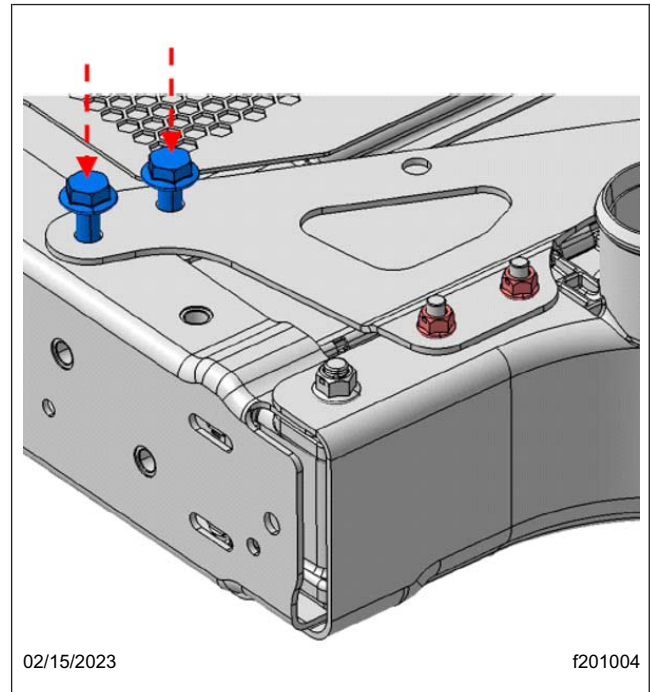

Fig. 15, M10 Flange Bolt Installation
- 15.4 Tighten the M10 hex flange bolts 29 ± 3 lbf·ft (40 ± 4 N·m). See Fig. 15.